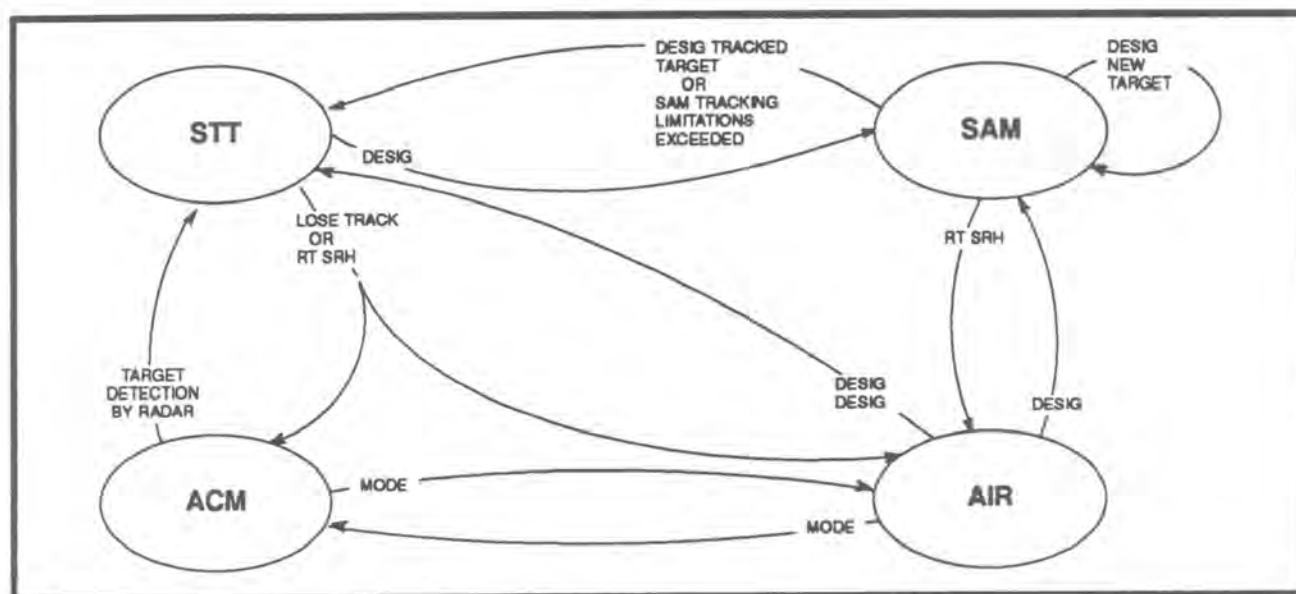

Figure 7-23 Air To Air Radar Mode Selection
7.195 The relationships between the available air-to-air modes is shown in Figure 7-23.